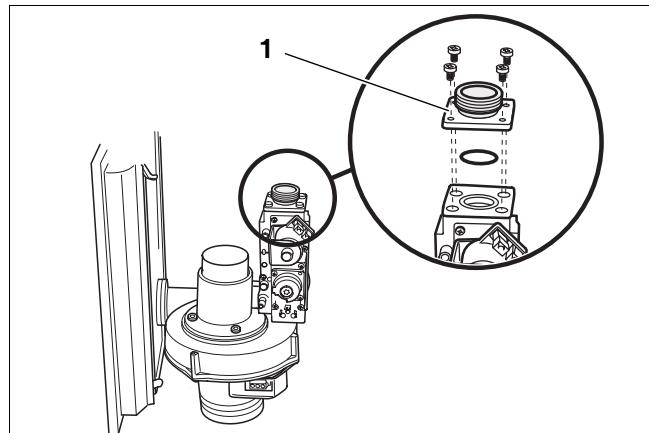

fig. 13 *Installing the gas flange*
- Install the gas flange from the natural gas assembly on the new gas valve (fig. 13, **pos. 1**).